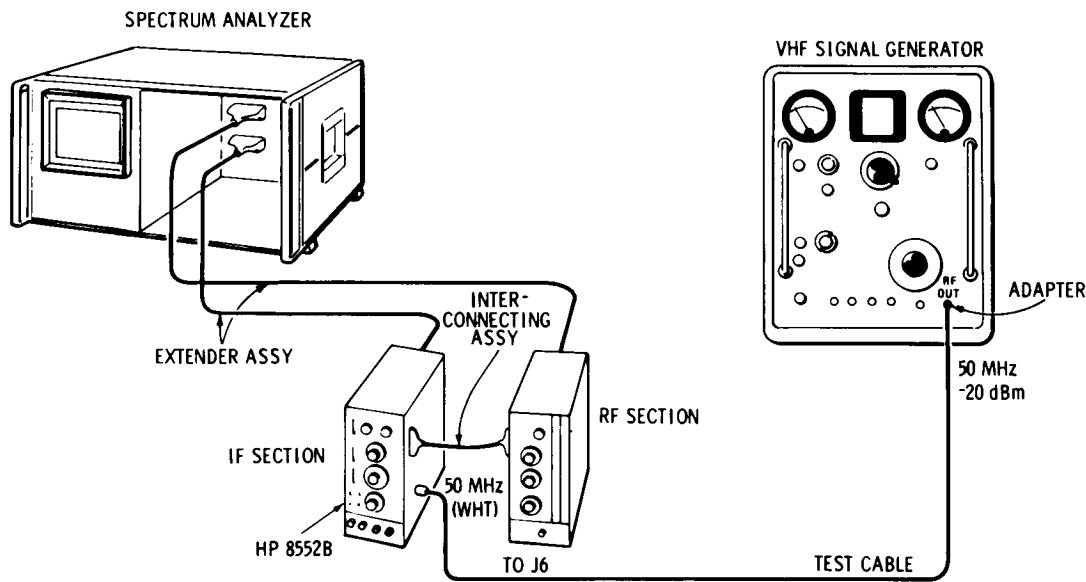

Figure 5-15. 44 MHz Rejection Adjustment Test Setup
1. Connect the test setup shown in Figure 5-15 and make the following control settings: